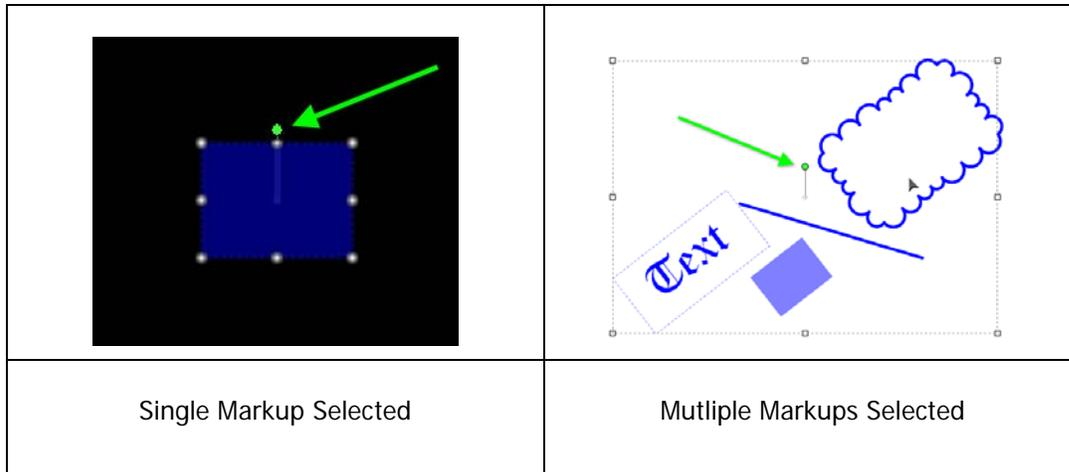

Figure 16.1 Markup Rotation and Resize Controls
- 2) Click and drag one of the eight handles which display when one or more entities are selected – see Figure 16.1.